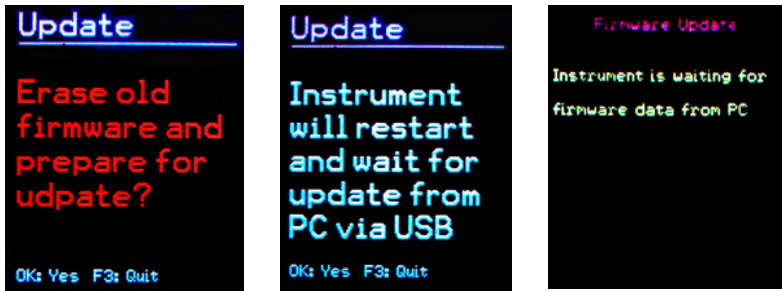

Figure 53: Firmware update
6. In the VM31 “Device Settings” select the option “Firmware update” and confirm the warning and subsequent hint messages by pressing OK. By carrying out this step the old firmware is deleted. The VM31 will then indicate that it awaits new firmware data from the USB interface (Figure 53).